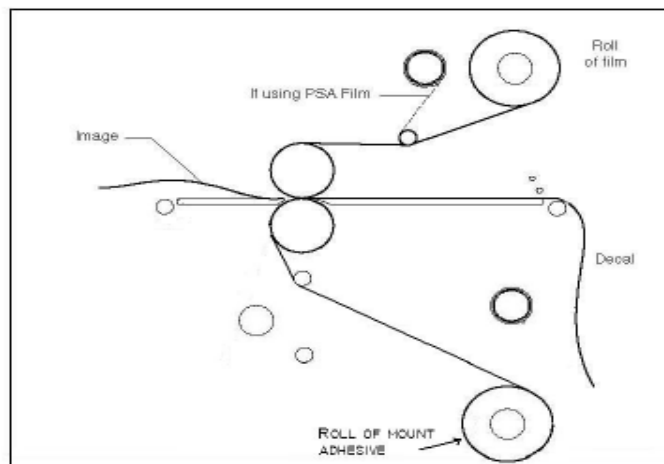

Fig. 34
TIPS FOR CREATING A DECAL (Figure 34)
1. Load the laminator as illustrated in Figure 34.